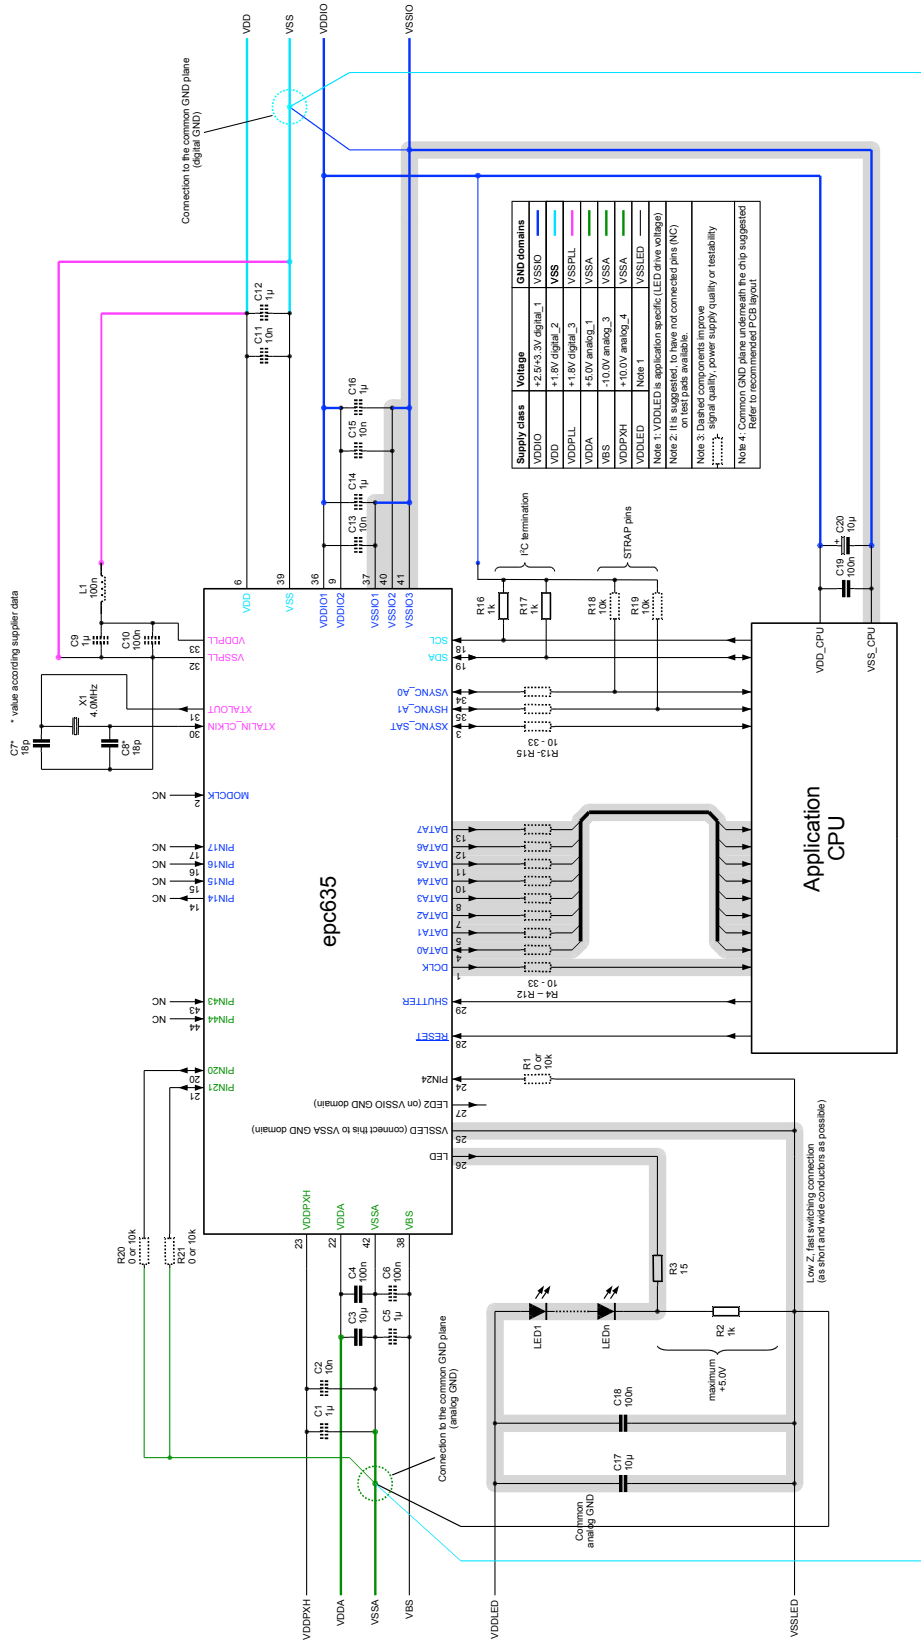
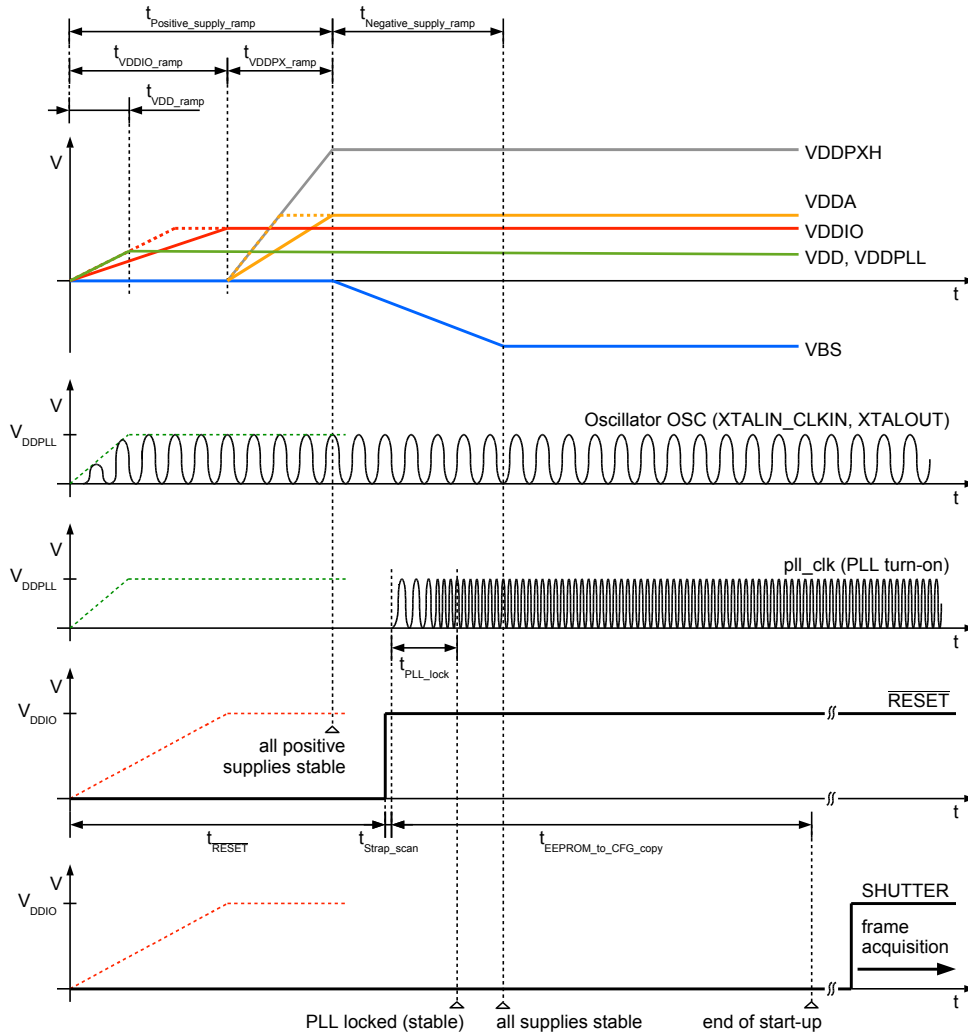

Figure 15: Typical application diagram
Figure 19: Power-up and reset sequence
Table 11: Values of component related to epc635 chip, see Figure 15
- +1.8V is used for supplying the digital logic (VDD), the on-chip oscillator OSC and the phase-look-loop PLL (VDDPLL). The digital logic creates some internal switching noise on VDD. When the same supply is shared together with OSC and PLL, their supply wiring must be separated from the digital wires and physically isolated from each other. These supplies are marked in the application diagram as VDD and VDDPLL respectively (Figure 15). A good practice is inserting on the PCB a series inductance of 100nH between them close to the supply source, then creating separate supply islands for both on the board. The XTAL/OSC and PLL are critical parts of the chip which directly impacts the optical system performance (i.e. distance calculation).
- +5V is used for supplying analog blocks of the chip e.g. pixel-field drivers and ADC readout circuitry. Refer to Figure 15.
15. Pins not listed here have to be connected according Figure 15.
During power-up, VDD and VDDPLL supplies (Figure 19) must be applied at the same time to the epc635. VDDIO can be applied either at the same time or after VDD and VDDPLL supplies become stable. In a system where VDDIO voltage is connected in parallel to application CPU IO supply pins (see Figure 15), VDD and VDDPLL can be generated by a linear regulator directly from VDDIO supply. In this case, all these three supplies ramp together.
The epc635 starts using either the internal 4MHz oscillator OSC with a crystal/resonator (Figure 15) or an external 4MHz clock, followed by an EEPROM copy sequence in parallel to the PLL turn-on phase. This is the factory default configuration. Several configuration registers are modified by copying the EEPROM content (Figure 51, i.e. overwrite reset values). The EEPROM copy step takes 340µs after the RESET is released.
The epc635 has output pins with dual/alternative functionality for PCB level flexible start-up configuration changing, called 'strap pins'. RESET release is followed by a strap pin scanning step. The chip programs its strap pins as inputs with internal pull-down resistors enabled for 4 osc_clk periods (refer to Table 1 and Table 3). If there is no external pull-up resistor connected, the corresponding strap pin will be scanned as logic 0 due to the internal pull-down resistor. If there is an external pull-up resistor connected (Figure 15), it will override the internal pull-down and corresponding pin will be scanned as logic 1. After the strap scan period, pins are programmed back as outputs so that they can be used for their main function. Strap pins and their definitions are listed below (Table 12).